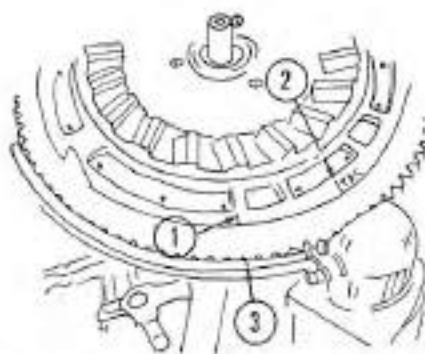

Fig. Mc118 — Timing marks used on Royal Electric models.
"Neutral" and the throttle lever in "Fast" position. Rotate the flywheel until the 31° BTC timing mark (1—Fig. Mc118) on flywheel guard is aligned with timing mark (3) on flywheel. Attach one lead of a test light (See Fig. Mc108) to the top terminal of the ballast, located on port side of power head, and ground the other terminal. Rotate the flywheel back and forth through a slight arc and note flywheel position when the test light bulb goes out. The points should break as flywheel timing mark (1—Fig. Mc118) aligns with timing mark (3) on fly-